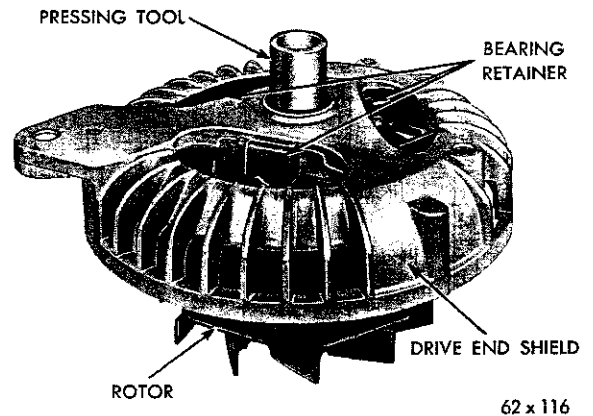

Fig. 78—Installing the Drive End Shield and Bearing
(6) Insert the drive end bearing in the drive end shield and install the bearing retainer plate to hold the bearing in place.
(7) Position the bearing and drive end shield on the rotor shaft and, while supporting the base of the rotor shaft, press the bearing and shield into position on the rotor shaft with arbor press and Tool C-3769 (Fig. 78).